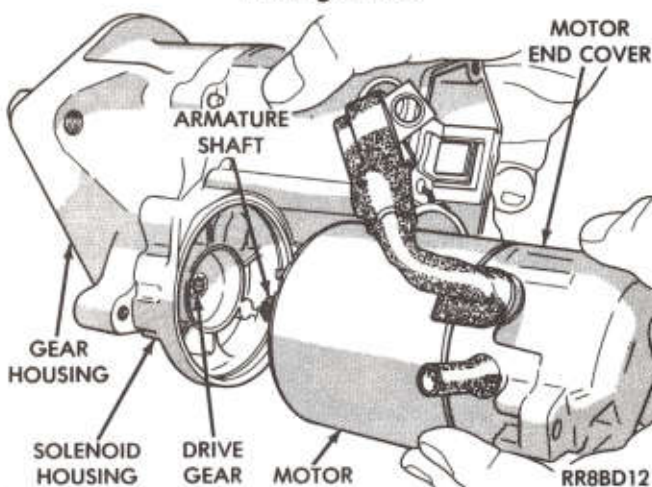

Fig. 7—Remove or Install Motor Assembly
(6) Disconnect the field terminal lead and disengage the motor from the solenoid and gear housing (Fig. 7).